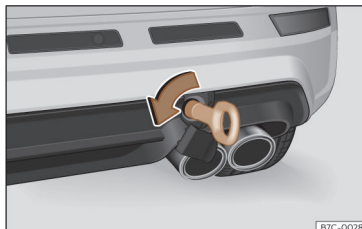

Fig. 44 On the right side of the rear bumper: towline anchorage in position.
- Screw the towing eye in the housing by turning it to the maximum **anticlockwise** >>> **Fig. 44** >>> ⓘ. Use a suitable object that can completely and securely tighten the towing eye in its housing.